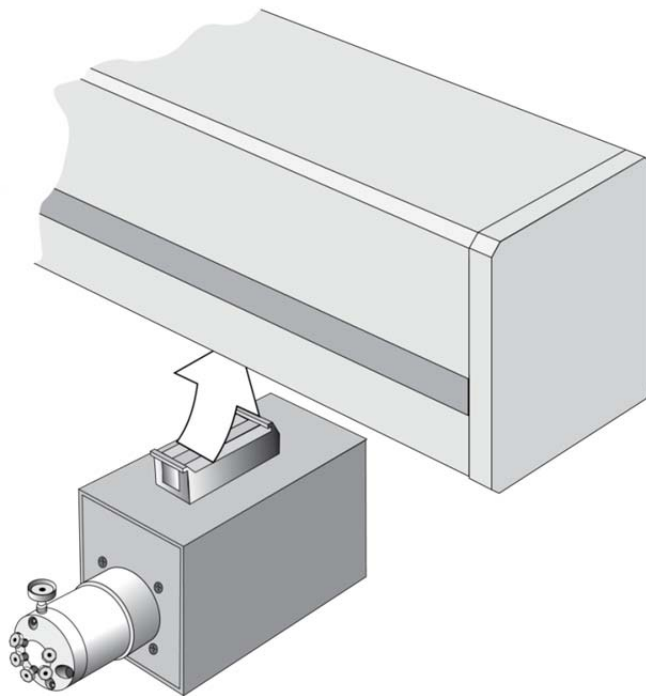

Figure 15. Installing the Injection Valve Drive
1. Locate the blue valve drive. It will have one clamp that is identical to other Object clamps (see Fig. 15). Loosen the clamp as described above;